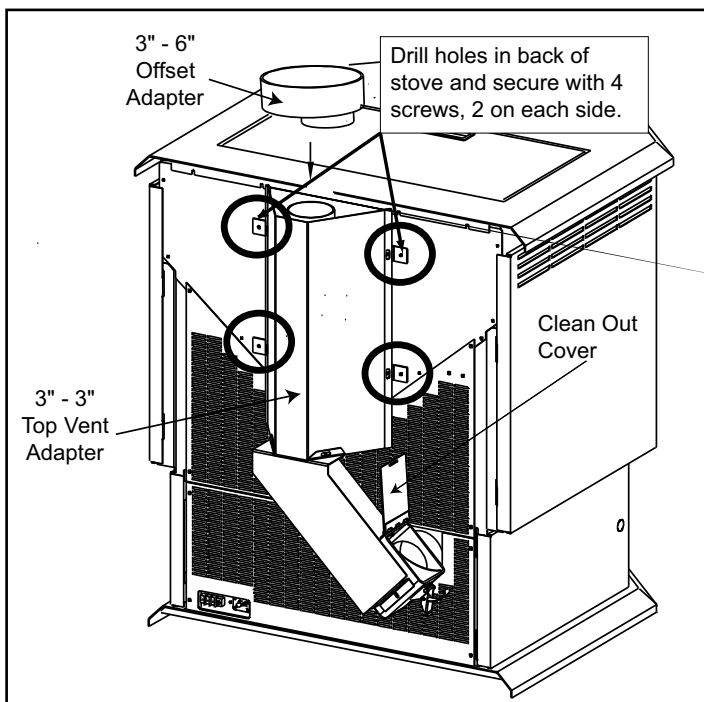

Figure 18.1
3. Drill 4 holes with #26 drill bit (provided) into the back of the appliance using the outer shield as a pattern (make sure the assembly is vertical). **Figure 18.1**
6. To clean the top vent adapter, open the clean-out cover. **See Figure 18.1**